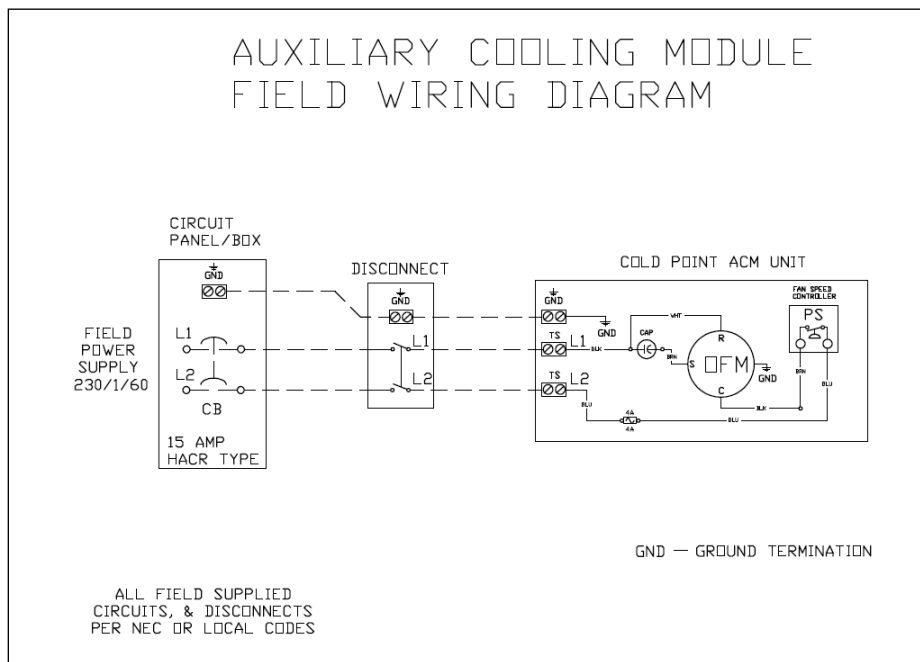

Figure 5. Hybrid Cooling Module Field Wiring
2. Connect appropriately sized line voltage wires and ground wire to the Hybrid Cooling Module, as shown in Figure 5.